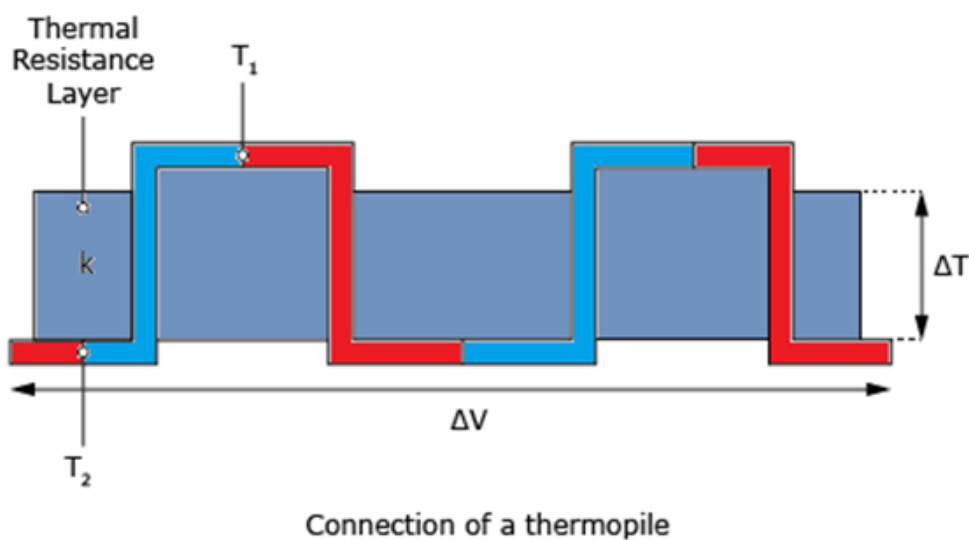

Figure 2 Schematic overview of a thermopile sensor consisting of two different metal types connected in series, embedded in a "thermal resistance layer".
As mentioned above, a thermopile sensor is created by placing many thermocouples in series. The generated voltage difference scales linearly with the number of thermocouples (N) and the temperature difference across the sensor ΔT (across the thermal resistance layer in Figure 2, as defined by the following equation:
Figure 2 shows a schematic overview of a part of a thermopile sensor.